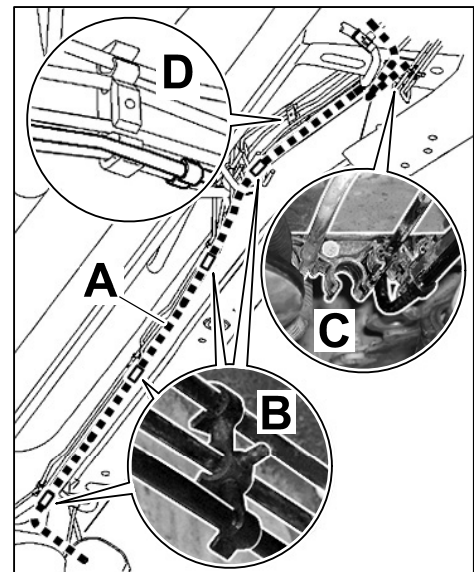

Figure 7
- 3.2.2 Route vacuum line at door sill ⇒ *Figure 7 -A-* back from the front wheel-housing trim area ⇒ *Figure 7 -inset C-* over the compressor and clip it in on the existing brake pressure lines ⇒ *Figure 7 -B and D-*.